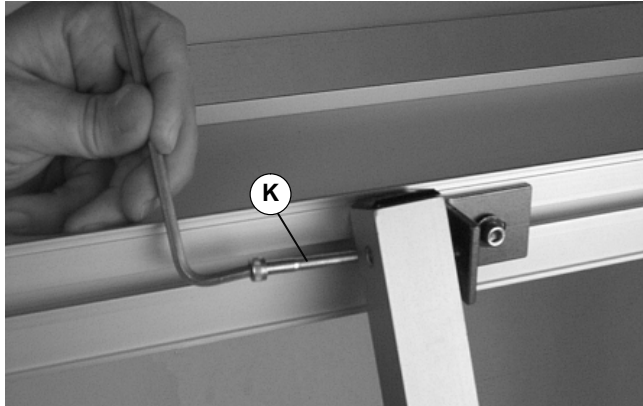

Figure 18
4. Loosely attach adjustable bar (B of Figure 18 or 19).
- Attach outer tube end with screw (K of Figure 18)